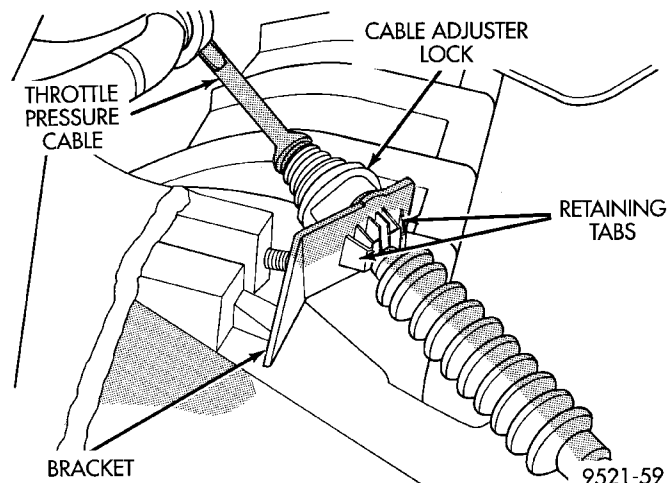

Fig. 206 Throttle Pressure Cable Adjuster Lock
(1) Perform transaxle throttle pressure cable adjustment while engine is at normal operating temperature.
(2) Release cross-lock on the cable assembly (pull cross-lock upward) see (Fig. 206).